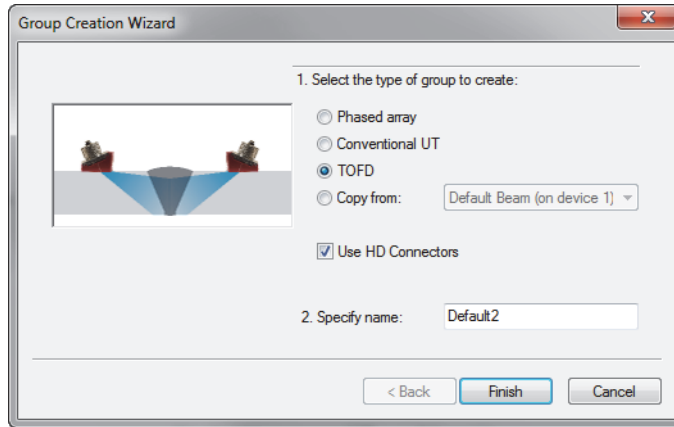

Figure 4-16 Group Creation Wizard dialog box (TOFD)
2. In the **Group Creation Wizard** dialog box that appears (Figure 4-16 on page 113), proceed as follows: